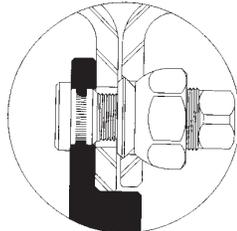

Figure 10
- ◆ Never use the hub piloted wheels which have straight holes with ball seat or spherical chamfer nuts. These parts are not engineered to work together and can cause premature wheel failure. On heavy truck dual wheels, this mismatch would not allow the inner cap nut to fit into the inner wheel, causing the inner cap nut to interfere with the outer wheel (See Figure 10). This could cause premature cracking and failure of the outer dual wheel.